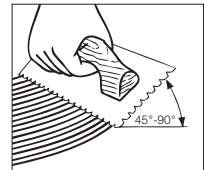

Figure 4
- Hold the trowel at a minimum 45° angle (Figure 4) firmly against the subfloor to obtain a 40–60 ft.² (4–5.5 m²) per gallon spread rate.